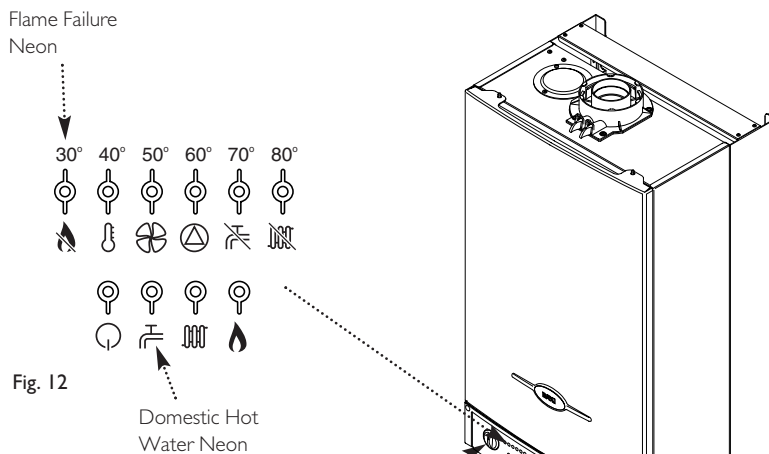

Fig. 12
9. The pre-heat feature will function with the selector switch in either operating position. This is indicated by the domestic hot water mode neon flashing (Fig. 12).
1. The red flame failure neon () will illuminate in the event of the burner failing to light, when incomplete lighting of the burner occurs or blockage of the condensate drain (Fig. 12).